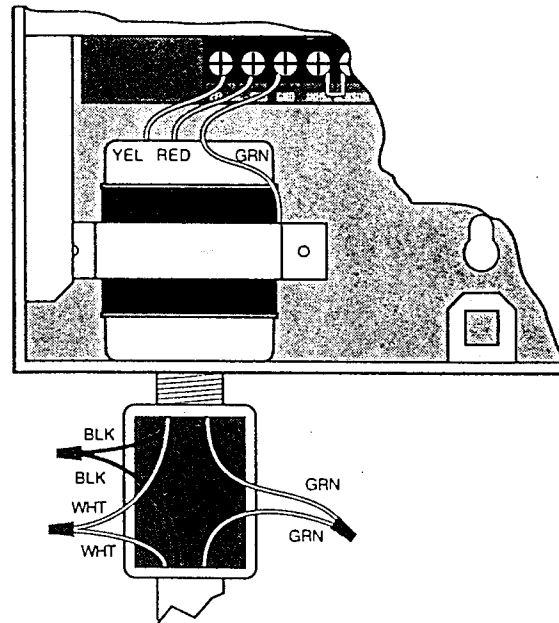

Figure 1. Electrical Hook-ups
2. Verify that the yellow and red wires of the transformer are connected to the 24-volt AC input on the terminals of the controller (see figure 1, page 6). Connect the black and white wires of the 120 volt AC, 60 Hz power supply to the black and white wires of the transformer (see figure 1).
2. Following the wiring diagram in figure 1, insert straight bare wire between the plates of the "sure grip" terminal. Connect one solenoid wire to the station terminal and the other to common. Tighten screws firmly.